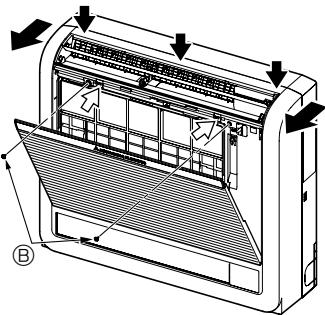
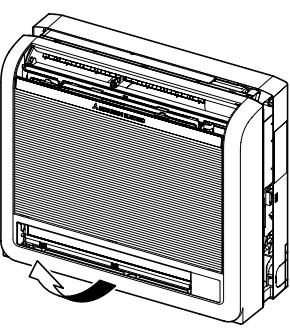

Fig. 3-3
Fig. 3-4
- ① Press the 2 positions indicated by the arrows ↘ and open the front grille. (Fig. 3-3)
- ② Open the front grille and remove the 2 screws.
- ③ Open the horizontal vane for the upper air outlet, push the top of the front panel in 3 locations, and then pull the top of the grille away from the indoor unit.
- ④ Lift up the front grille to remove it. (Fig. 3-4)